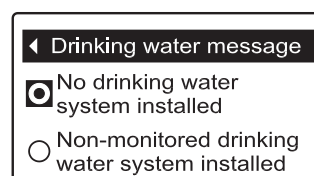

FIG. 107
4. Press the SELECT (O) button to display the Drinking water message menu (See Figure 107).